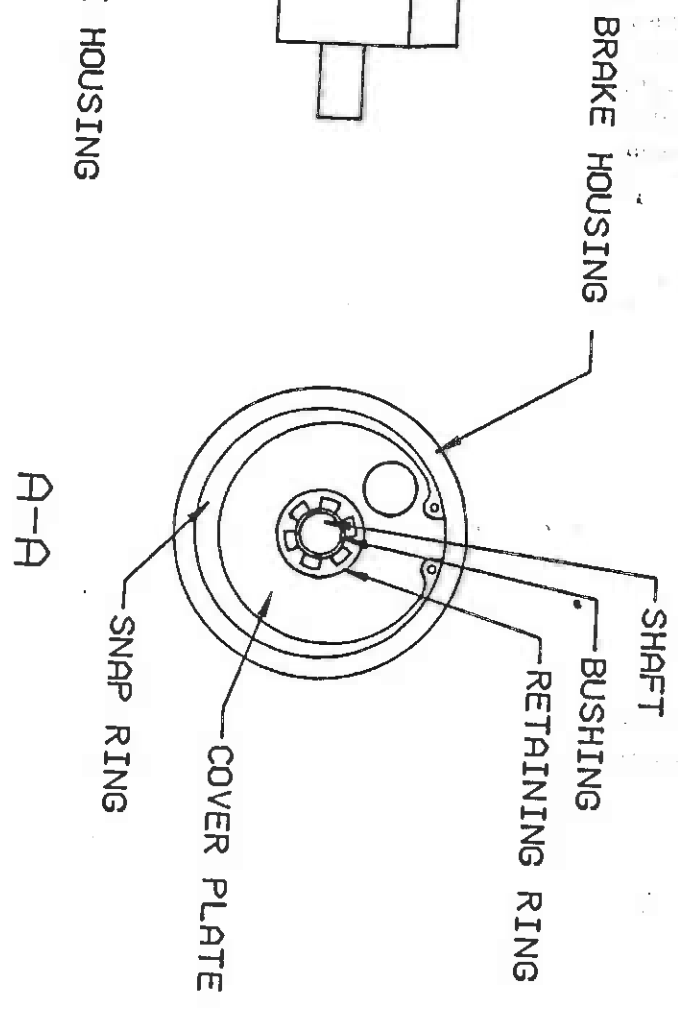

FIGURE 1
3. Inspect the piston shaft guide bushing in the cover plate for security and wear. (Reference FIGURE 1)
5. If the guide bushing is found to be within the specified limits and cannot be rotated in the cover plate, the master cylinder may be reinstalled in the aircraft in accordance with the AA-5 Series Maintenance Manual and the AG-5B Supplement Chapter 32-4-2 and the aircraft returned to service or you may continue with part (B) of this Service Bulletin.
NOTE: REFERENCE FIGURE 1